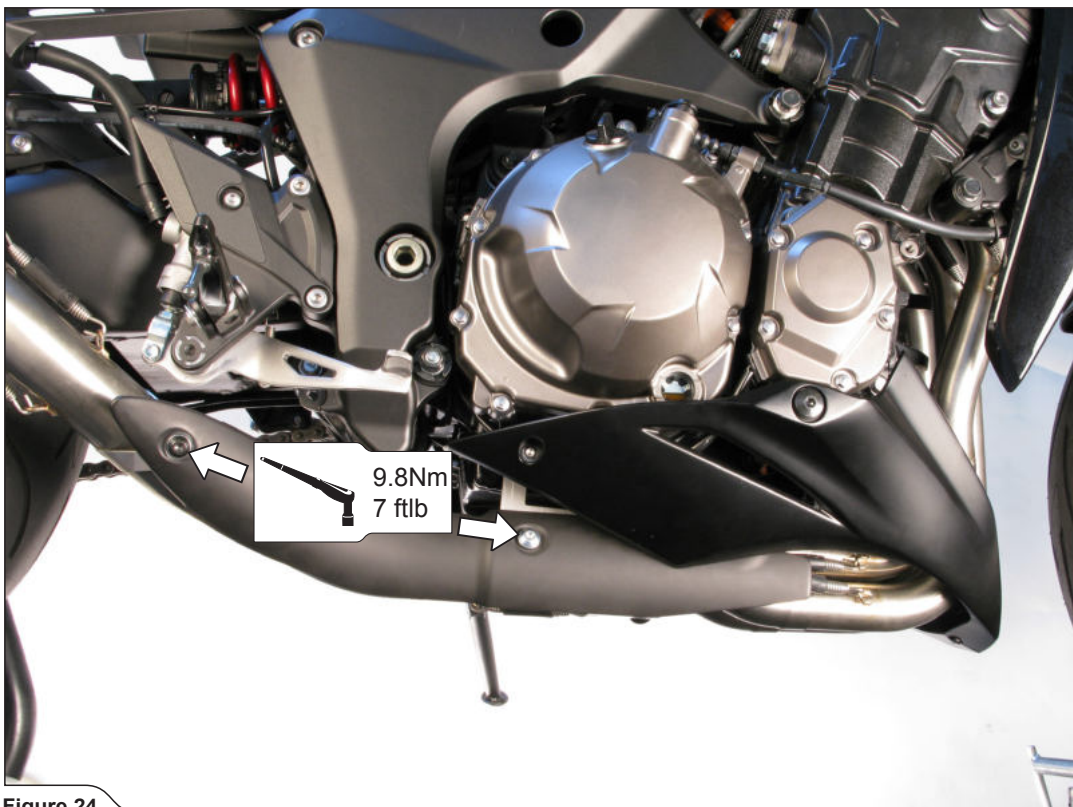

Figure 24
10. Reinstall the stock heat shield, using stock bolts (**Figure 24**).